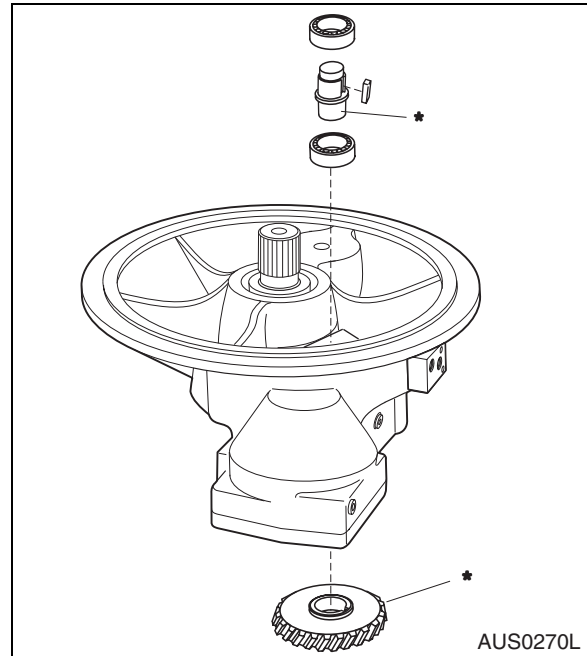

Figure 57
1. Press bolt (*, Figure 57) into gear wheel.